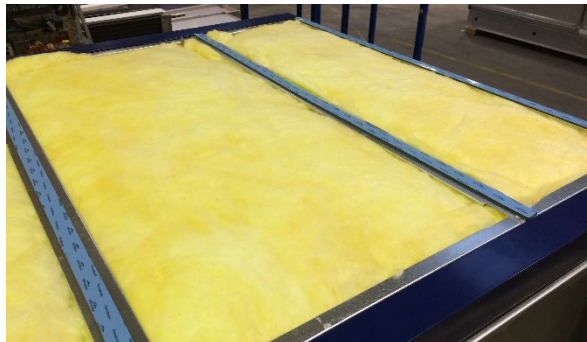

Figure 93: Part of the AHU prepared for assembly of metal sheet roof
- All parts of the AHU with roof inside panel inclusive insulation. The height difference of the roof inside panels on the edges, which cross to the corner profiles, and the top edge of the corner profiles is compensated by a sealing strip and / or a double-sided tape (see **Figure 93**).
- Remove the protective foil from the double-sided tape. (see **Figure 93**)